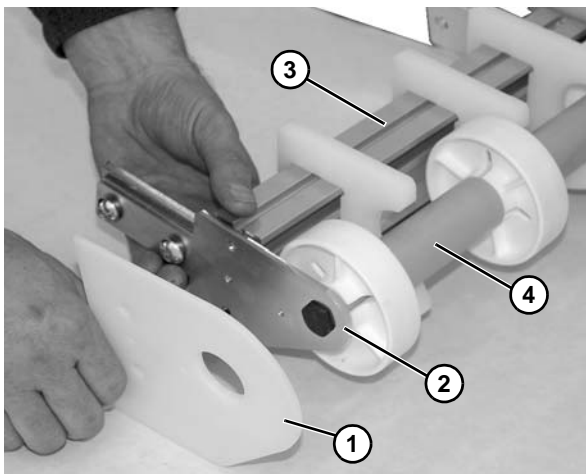

Figure 84
6. Remove filler plate (Figure 84, item 1) and idler backing plate (Figure 84, item 2) from crossmember (Figure 84, item 3) and roller assembly (Figure 84, item 4).